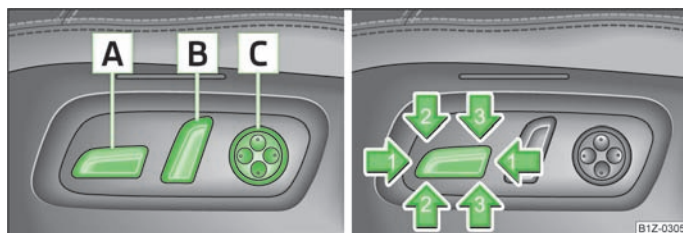

Fig. 41 Controls for the electric seat adjustment
- > Press the switch » Fig. 41 forwards or backwards in the direction of arrow 1.